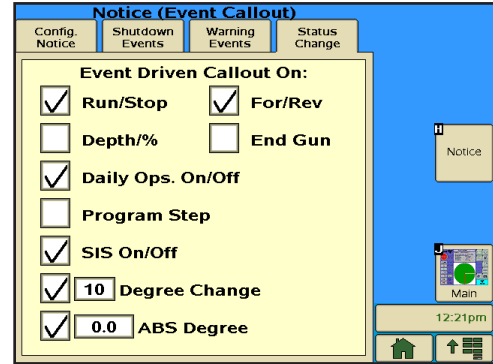

Figure 86-1 Status Change Events Screen
1. Push **Options, Notice, Status Change Events** to display the Status Change Events screen. Refer to Figure 86-1.
- DEGREE CHANGE (10) - Position changes by more than a user-defined degree interval from 1° - 359°. The default value is 10°. (The user is prompted to enter the number of degrees when the option is toggled to the enabled state).